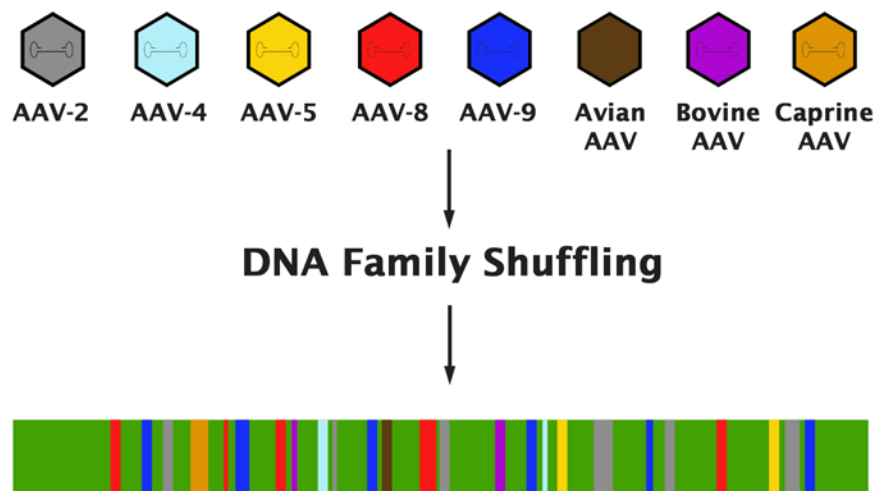

Figure 3. Generation of AAV-DJ through capsid DNA family shuffling.
Adeno-associated virus (AAV) serotypes differ broadly in transduction efficacies and tissue tropisms. DNA family shuffling technology was used to create a complex library of hybrid capsids from eight different wild-type viruses (Figure 3). Stringent selection of AAV variants on human liver cells and with human anti-AAV antisera result in AAV-DJ (a clone named after the first two authors, see ref. 11), and AAV-DJ/8 (a heparin binding domain mutant of AAV-DJ). Recombinant AAV-DJ vectors mediate superior in vitro transduction efficacies in comparison with any other wild type serotypes. Transduction on cell types from different species and tissues, including primary human hepatocytes, melanoma cells, and embryonic stem cells, showed that AAV-DJ vectors were not only superior to all HBD-negative wild-type viruses (up to 100,000-fold better than AAV-8 or AAV-9), but also substantially better than AAV-2. (See Table 2 for detail). The heparin binding domain (HBD) plays important role for in vivo viral infection as demonstrated by comparing AAV-DJ to the DJ/8 mutant: HBD deletion alleviated the liver restriction and expanded transduction to all nonhepatic tissues, including the brain, identical to the transduction patterns of AAV-8 and AAV-9.